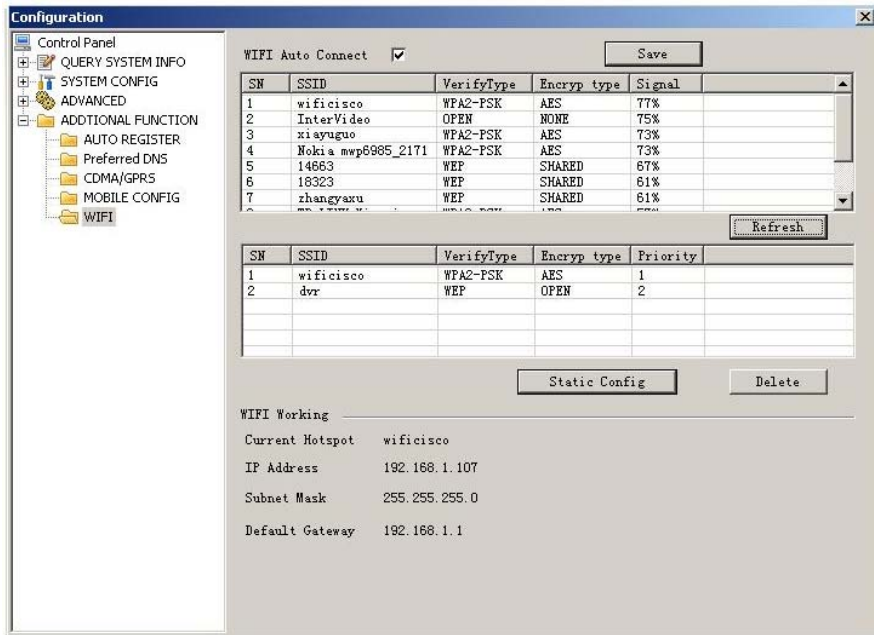

Figure 7-61
- WIFI working information: After system successfully connected to WIFI, you can view hotspot name, IP address, subnet mask, default gateway and etc. See Figure 7-61.